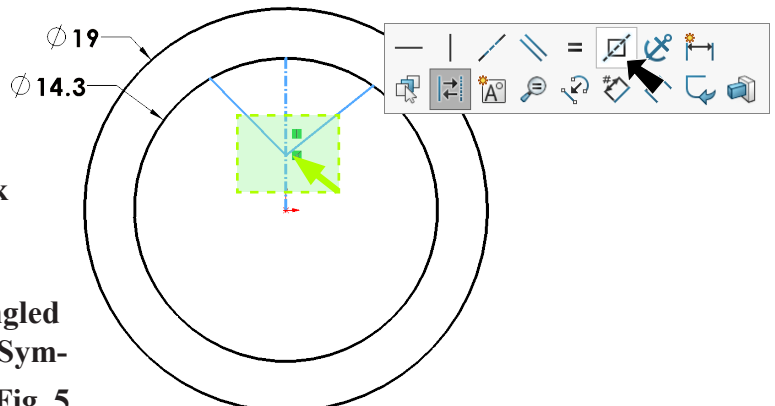

Fig. 5
Step 12. **Drag a selection to left to cross angled lines and centerline**. Click **Make Symmetric**  on the context toolbar, **Fig. 5**.